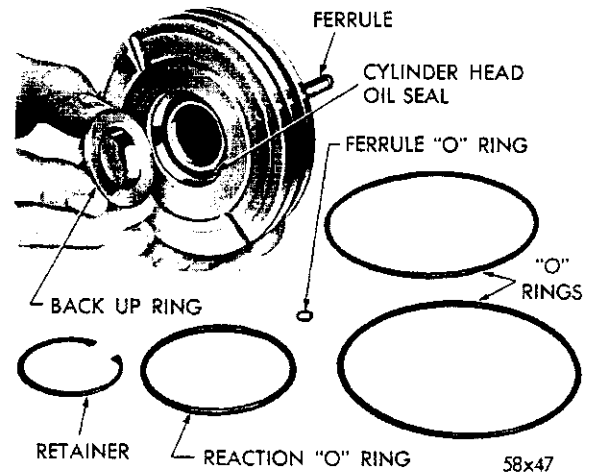

Fig. 40—Removing the Cylinder Head Seal
(3) Inspect the worm shaft seal in the cylinder head counterbore for possible damage; replace the cylinder head seal if necessary (Fig. 40).